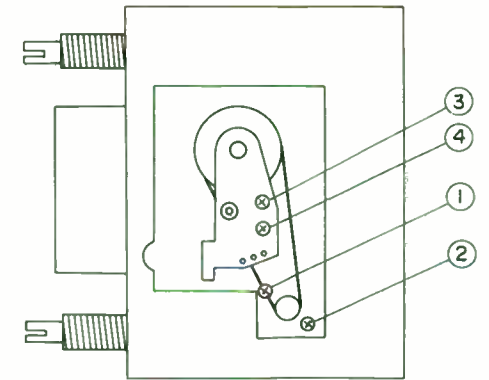

Fig. 8
After removal of bottom cover as described before, unsolder the motor lead wires, loosen the screws (1 , 2 Fig. 8) and remove the motor.
2. Remove the two screws. (3 , 4 Fig. 8)